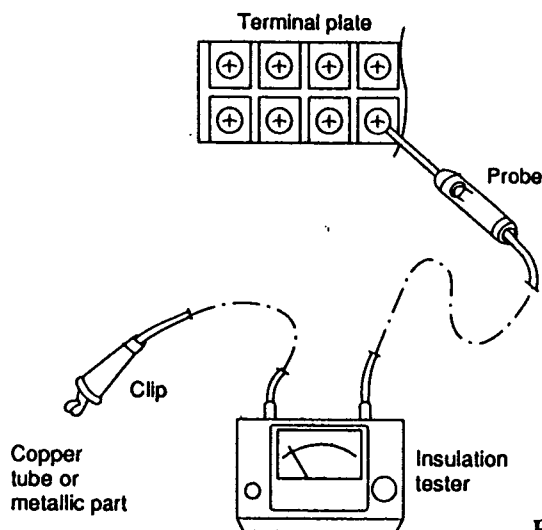

Fig. 2
(2) Indoor Unit
Clamp an aluminium plate fin or copper tube with the lead clip of the insulation resistance tester and measure the resistance by placing a probe on ①, and then ② on the terminal plate. (Fig.2)
(3) Outdoor Unit
Clamp a metallic part of the unit with the lead clip of the insulation resistance tester and measure the resistance by placing a probe on ①, and then ② on the terminal plate. (Fig.2)
(4) Measurement of Insulation Resistance for Electrical Parts